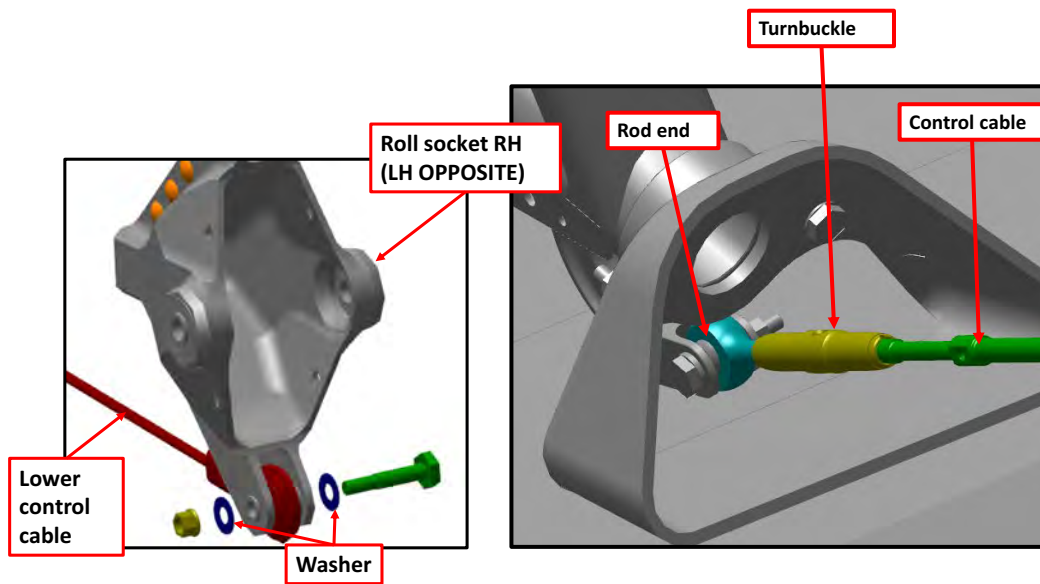

FIGURE 9-22
2. Starting from the center wing loosely route new lower roll cable from the roll socket to the torque tube bearing. Use Figure 9-22 for routing path. (See "Roll Socket and Torque Tube Connection Points" on page 9-30.)